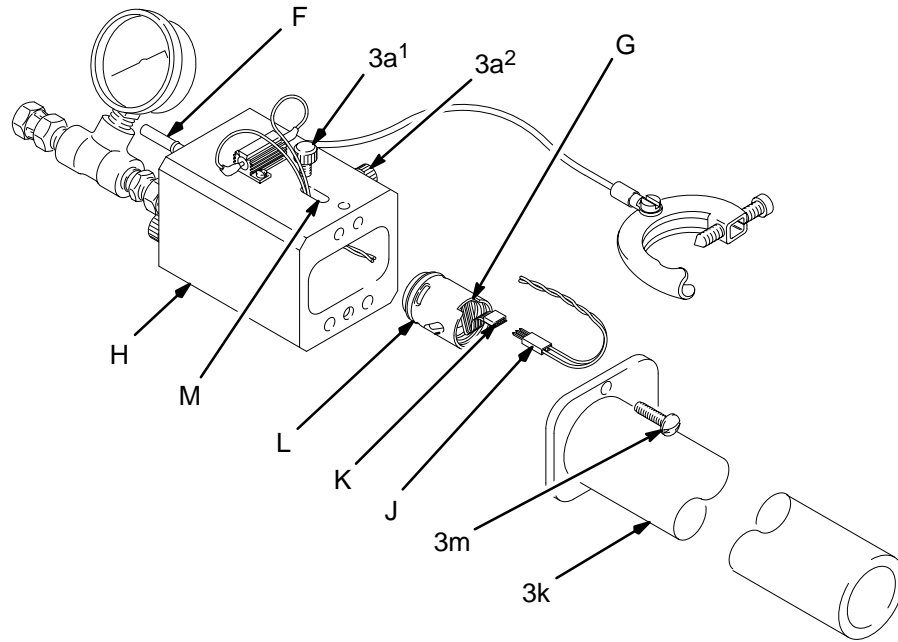

Fig. 3
3. Place the 3-pin connector (J) through the fixture slot (M) and connect it to the turbine alternator connector (K); the orientation does not affect the test. See Fig. 3.
5. Place the turbine alternator inside the fixture (H).
11. Remove the probe shroud (3k). See Fig. 3.
12. Disconnect the 3-pin connector (J) and loosen the locking screw (3a). See Fig. 3. Use the plunger (F) on the back of the fixture to push out the turbine alternator (L).